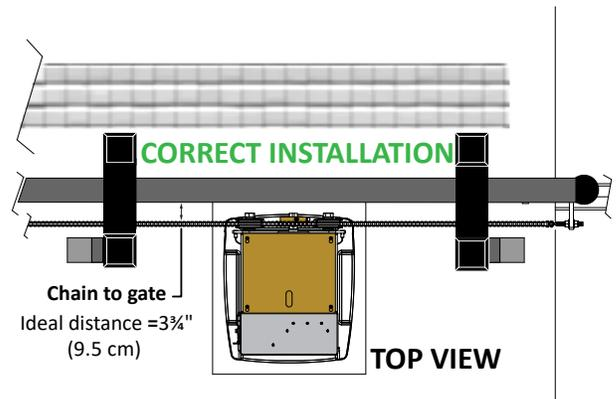
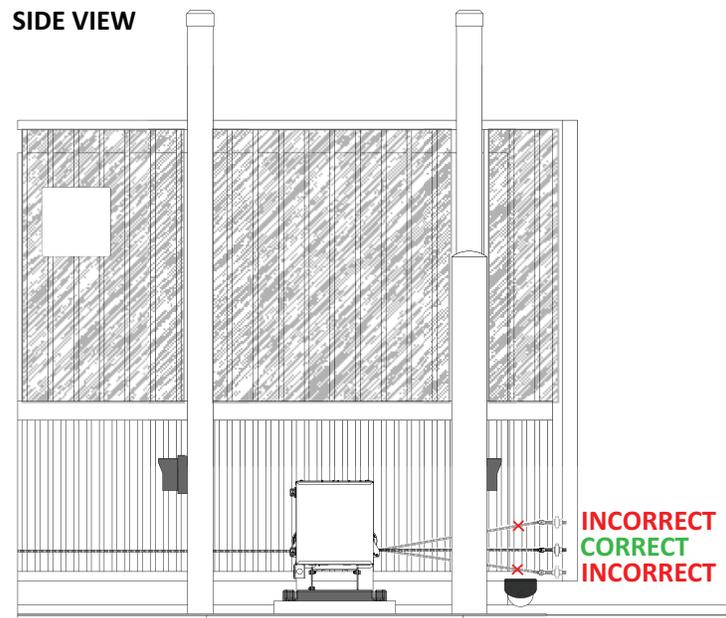

Figure 13. Correct Rear View Chain Installation
Figure 15. Side View Chain Installation
3. In either situation, make sure the chain is properly aligned horizontal to the ground and parallel to the gate. See Figure 13 – Figure 15.